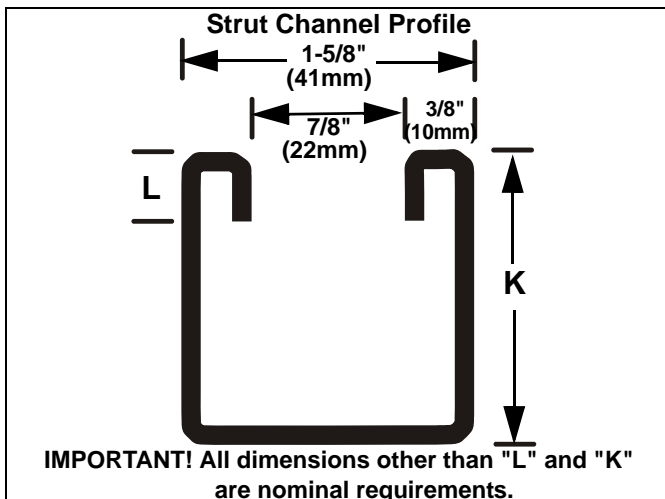
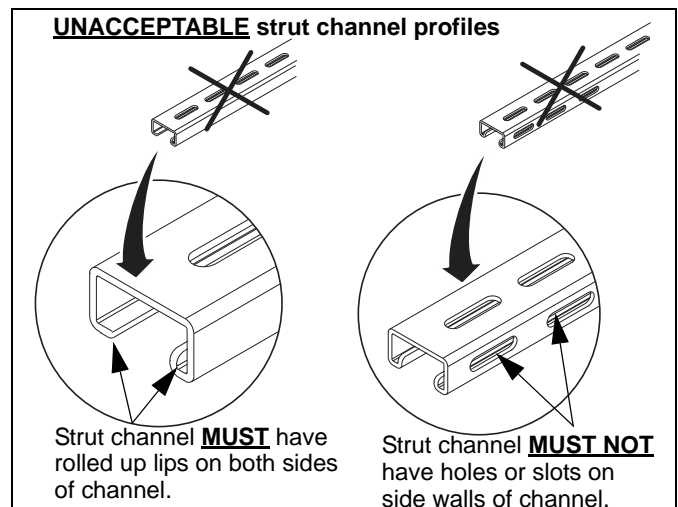

Figure 3
Figure 4
**IMPORTANT ! :** Strut channel **must** be made of steel with a minimum yield strength of 33ksi (230MPa), **OR** aluminum (6063-T6, 6005-T5 or stronger) with a minimum yield strength of 30ksi (207MPa), and meeting the profile and dimension requirements outlined in Table 2, dependent on whether it is a flat wall or curved wall installation. (See Figure 3) and (See Figure 4)